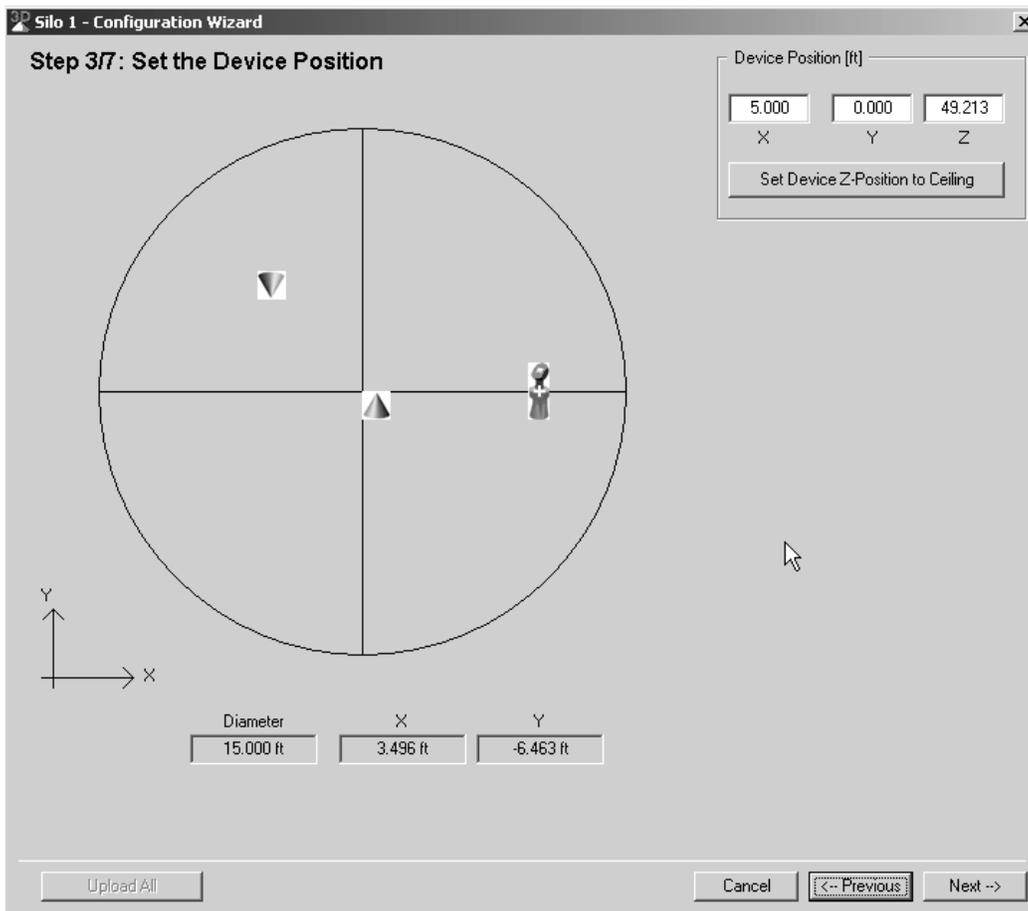

Figure 42 Configuration Wizard – Step 3/7: Set the Device Position
Step 3/7 (Figure 42) specifies the device's exact location on the vessel.